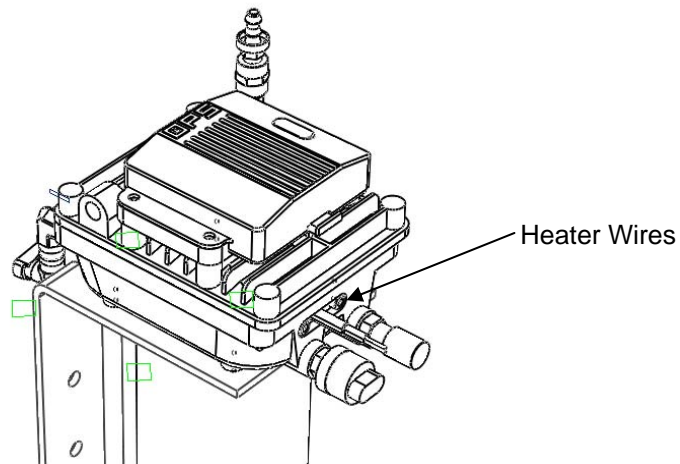

Figure 6: Heater Wires
- Heaters with **BLACK** wires (See Fig. 6) are for a **12V** system.
- Heaters with **WHITE** wires (See Fig. 6) are for a **24V** system.